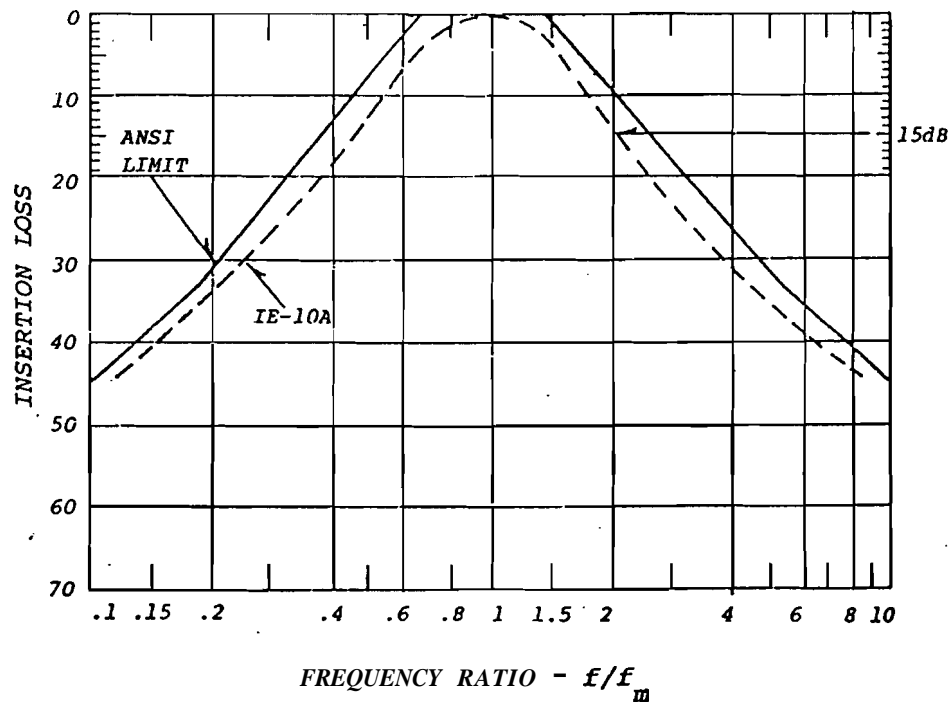

Figure 2
The ten octave filters in the IE-10A Spectrum Analyzer meet the requirements of the ANSI S1.11-1966 (R 1975) Class I filter standards. A plot comparing the second order Chebychev filters in the IE-10A with the ANSI standard curves can be seen in Figure 2.
A well designed **bandpass filter** should allow **passband information** to be **transmitted** through it without significant energy loss while all frequencies outside the **passband** should be rejected or attenuated to some degree. Transmission loss (vertical axis of Fig. 2) is simply a measurement of the "attenuation" of energy (usually expressed in dB) as it passes through a device or circuit.
**I**f we inject a pure 1 KHz tone into an octave filter having a center frequency of 1 KHz, the "transmission loss" would be minimal, or close to 0 dB. However, an out-of-band 2 KHz tone into the 1 KHz octave filter of the IE-10A would have a "transmission loss" of approximately 15 dB as can be seen by studying Fig. 2.